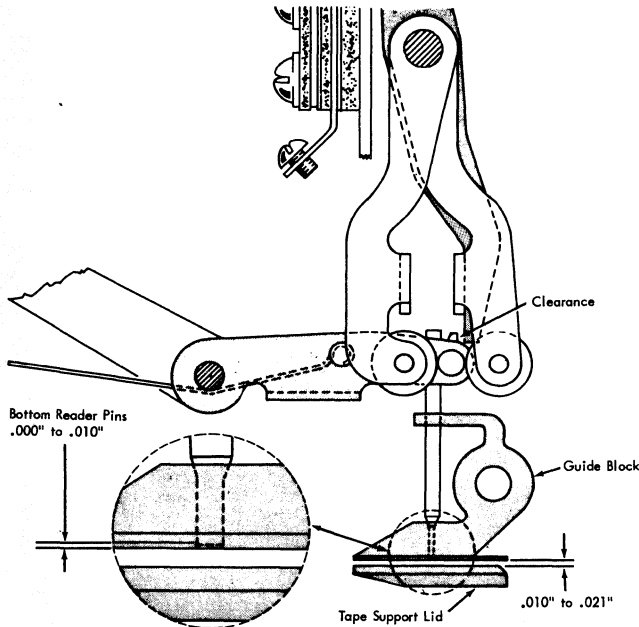

Figure 118. Reader Pin Interposer Clearance
1. Clearance between tape support lid and pin guide block should be .010-inch to .021-inch (Figure 118).
advanced and when reader unit is latched up (Figure 118). This is not readily adjustable except by peening or stoning control arm where interposer bail latches.